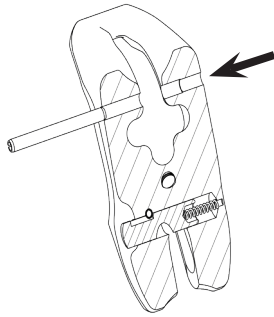

Fig. 26:
1. For easy dismantling, always remove the locking pin with the hammer as shown in Fig. 26 (opposite to the bolt).